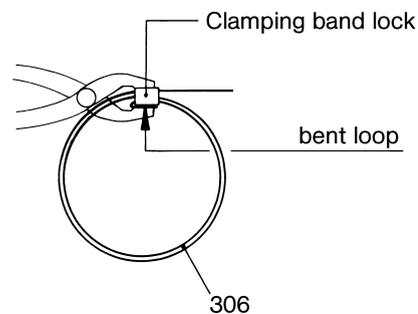

Figure 9: Press bent loop of clamping band against the clamping band lock.
- Raise the cover sleeve (308) by lifting at the top with a screwdriver, guide the oil can spray pipe beneath the sleeve, and fill the joint area with ALLWEILER special joint oil Type B or ET 1510 ISO 460 oil from Tribol Lubricants GmbH, Mönchengladbach. For use in the food industry, fill with ALLWEILER Special Joint Oil Type BL or 1810/460 oil from Tribol Lubricants GmbH, Mönchengladbach. For filling quantities, please see the table in Section 7.1.2.4.
- Check that the bent loop of the clamping band (306) is resting against the clamping band lock. If not, press it against the lock with a pair of standard flat pliers (see Figure 9).